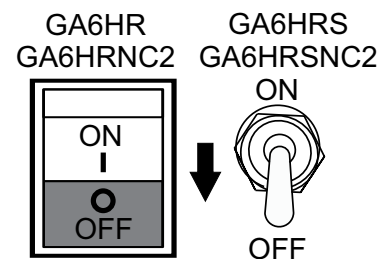

Figure 35. Operation Switch (Emergency)
1. Place operation switch (Figure 35) in the **OFF** position.